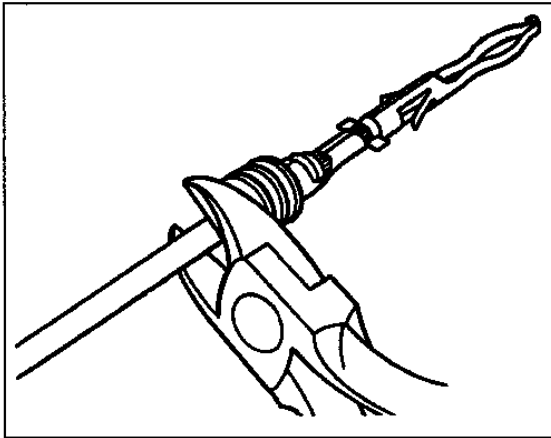

Figure 44 Cut Wire Immediately Behind Cable Seal
3. Cut wire immediately behind cable seal (Figure 44).